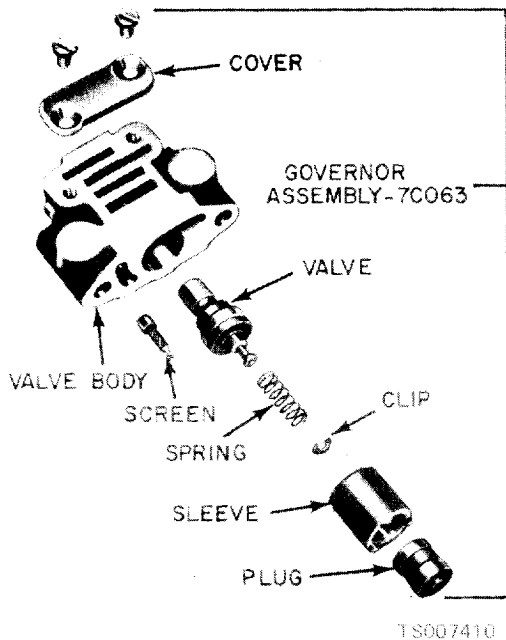

Figure 7-22. Governor Parts.
- (1) Remove the governor valve body cover.
- (2) Remove the valve body from the counterweight.
- (3) Remove the plug, sleeve, and the valve and spring from the body (fig. 7-22).